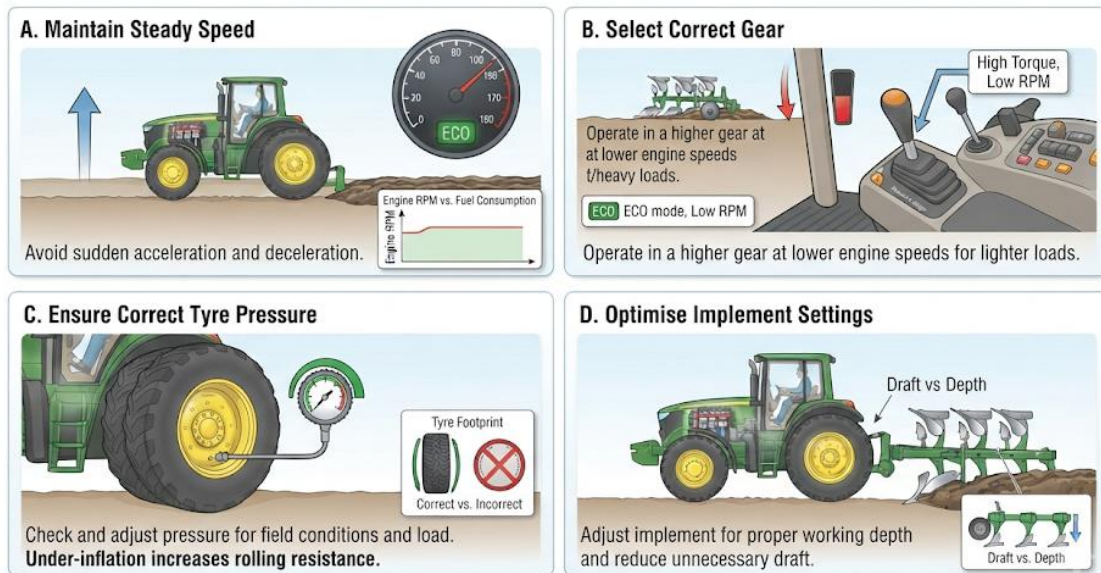

Figure 3.3 Fuel efficiency practices in tractor operation
Diagram showing fuel efficiency practices in tractor use Caption: Figure 3.3 Fuel efficiency practices in tractor operation
- Figure 3.3 Fuel efficiency practices: “tractor fuel efficiency practices diagram OER”